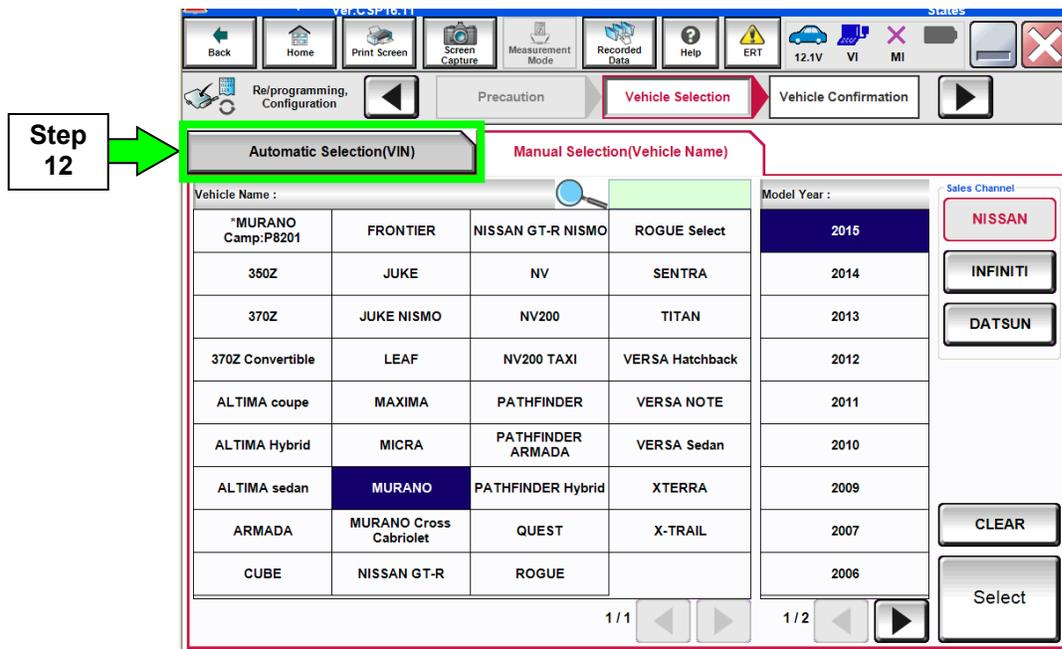

Figure 3
12. If the screen in Figure 3 appears, select **Automatic Selection(VIN)**.